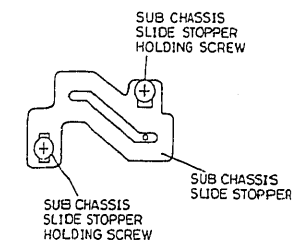

Fig. 3-5
- Push in the sub chassis in the direction of the cylinder. (See Fig. 3-5)